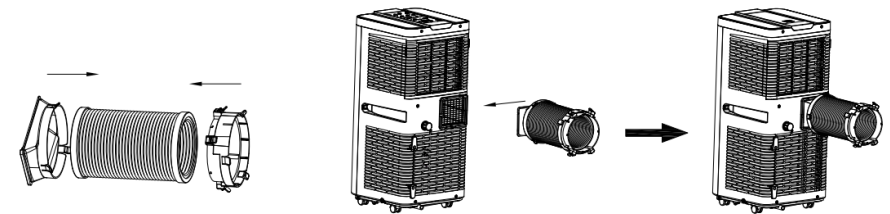

Fig 7
- (1) Twist both ends of the exhaust hose into the square fixing clip and the flat fixing clip.
- (2) Insert the square fixing clip into openings at back of the air conditioner (see Fig.7).
- (3) Put the other end of the exhaust hose to the near windowsill.